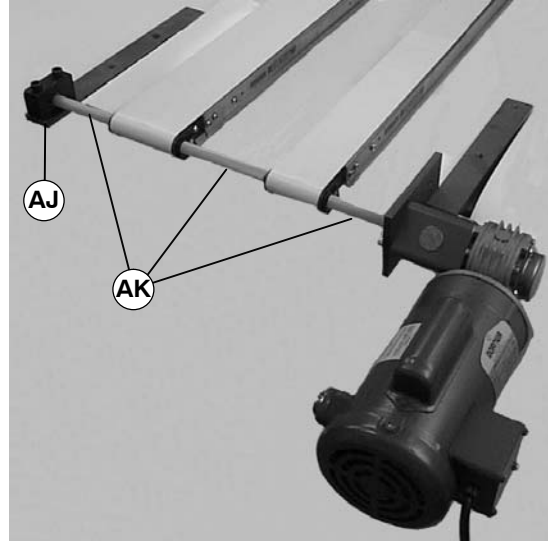

Figure 18
1. Disassemble support (AJ of Figure 18) and remove hex shaft and shaft guard sections (AK).
4. Grease bearing with one (1) pump from a manual grease gun. Do not over-lubricate.
6. Re-assemble hex shaft with guards and support (T of Figure 18).
1. Disassemble support (AJ of Figure 18) and remove the hex shaft and shaft guard sections (AK).